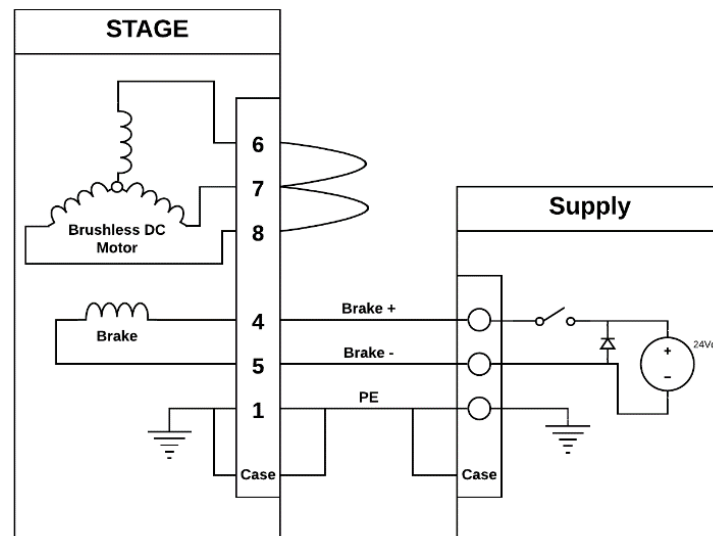

Figure 14. Example Brake Override Circuit
2. You can disengage the power-off brake by applying 24V to the appropriate pins on the motor connector, see Table 16, Table 10, and Figure 14.